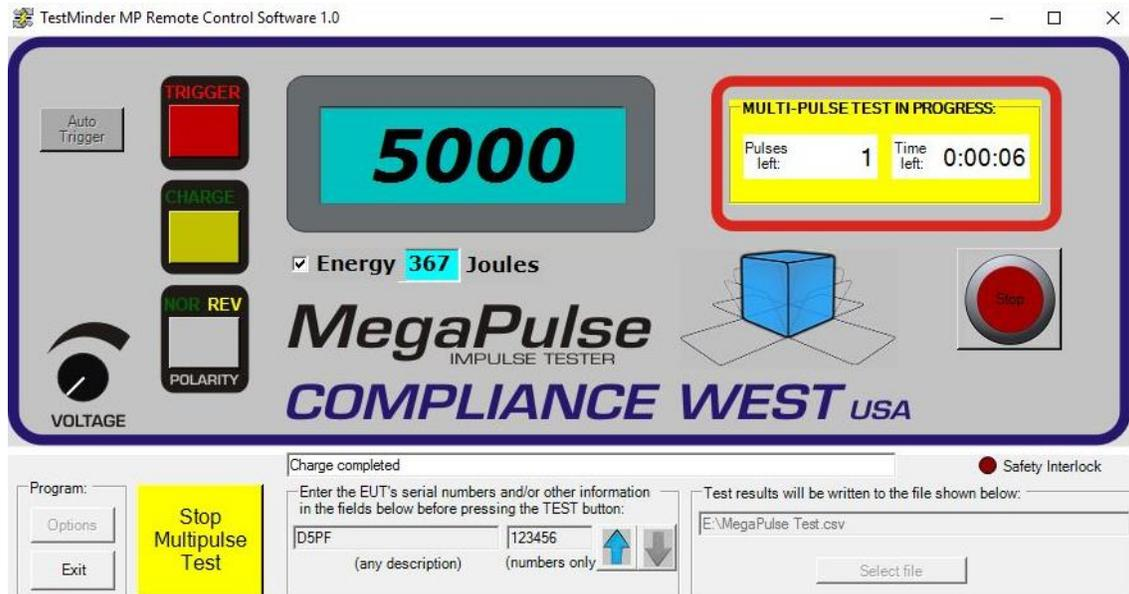

Figure 35 Multipulse test screen
4. To conduct the previously set up Multi-Pulse test, click on the “Start” button in the Multi-Pulse Test field. The test starts immediately, and status is shown on the Main Screen (Figure 35). Note that the charge process can be stopped and pause the Multi-Pulse at any time by pressing the Safety “STOP” button, the Multi-Pulse can be stopped by pressing on the bottom left yellow button “Stop Multi-Pulse Test”, but if the unit was charging the unit will deliver that pulse, and then stop, “Do not use this button for emergency stop”. When a Multi-Pulse test is paused with interlock, the Trigger and Charge buttons start blinking until the “GO” button is pressed and clears the emergency state and continues testing. Care must be taken at this point because the tester might still have charge. Make sure to safely discharge the tester before starting a new sequence to avoid any risk.